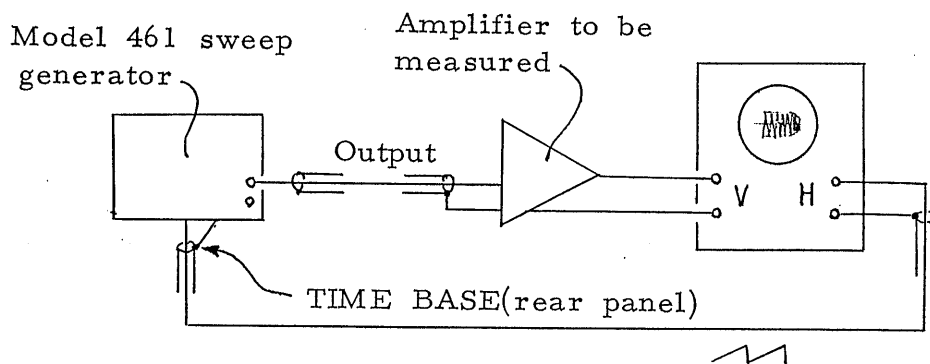

Fig. 3-3
2. Connect Model 461, the oscilloscope and the amplifier to be measured as shown in Fig. 3-3.